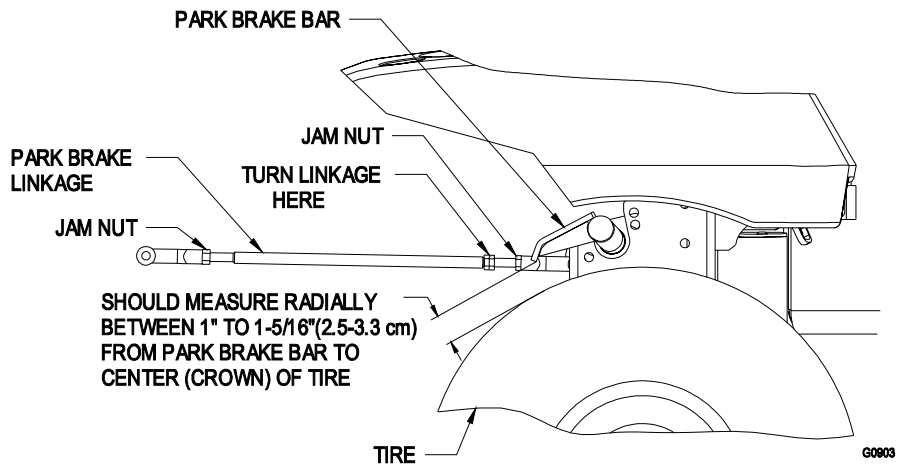

FIGURE 8
- d) Loosen the jam nuts next to the yoke at each end of the park brake linkage. See Figure 8.
- f) Turn the linkage until the distance from the lower front corner of the brake bar measures 1" (2.5 cm) to 1 5/16"(3.3 cm) with the park brake disengaged See Figure 8.